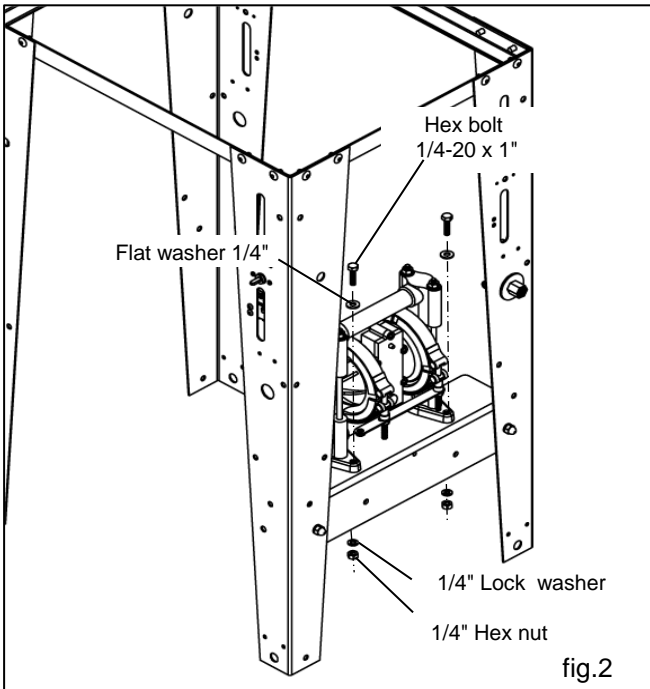

fig.2
Attach the pump to the stand using the (2) 1/4-20 x 1 hex bolts, (2) 1/4" flat washers, (2) 1/4" lock washers and (2) 1/4" hex nuts per leg [see fig.2].